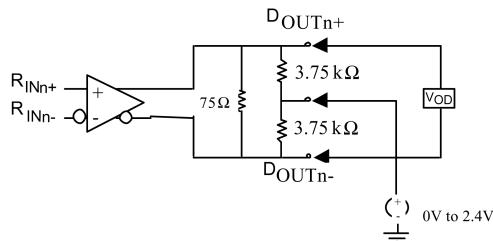

FIGURE 1. Common Mode Supply Test Circuit
- When the true and complement LVDS outputs (having a 75Ω connected between outputs) are connected to $3.75\text{ k}\Omega$ resistors and the common point of those $3.75\text{ k}\Omega$ resistors are connected to a voltage source that sweeps from 0 to 2.4V, the DC V_{OD} and ΔV_{OD} are still maintained (see Figure 1).